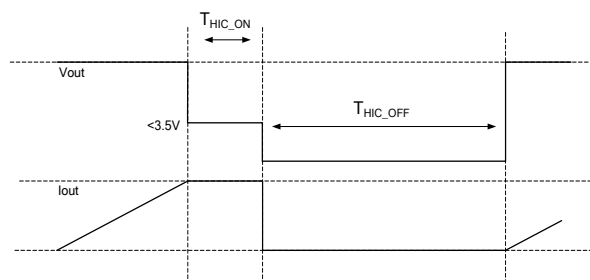

Figure 4: Over-Current Protection
For the current limit setting, refer to the Current Limit vs. R_{Limit} curve on page 6. If the set current limit is less than 500mA, the current limit accuracy worsens slightly. An external R_{Limit} resistor can set the current limit threshold. If an over-current (OC) condition occurs but $V_{OUT} > 3.5V$, the MP5030D works in constant-current (CC) limit mode without hiccup. If OCP is triggered and $V_{OUT} < 3.5V$ for 2ms, the MP5030D enters hiccup mode. In hiccup mode, the MP5030D turns off the power MOSFET (see Figure 4).